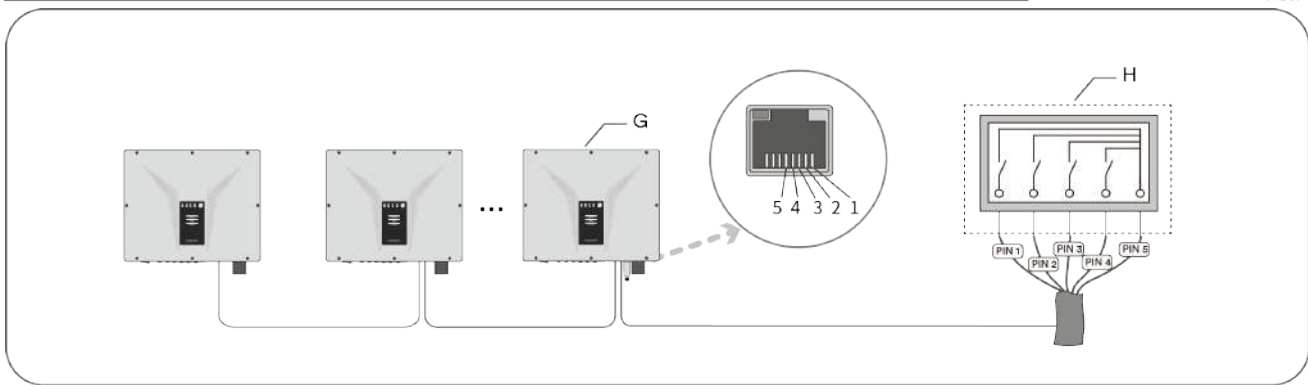

Fig. 48. Connect the network cable to ripple control receiver
8. Strip the insulation of the other side from the network cable and screw copper wire to the corresponding terminal of the ripple control receiver. Screwdriver type: SL1.5, tightening torque: 0.6 Nm (see Fig. 48).